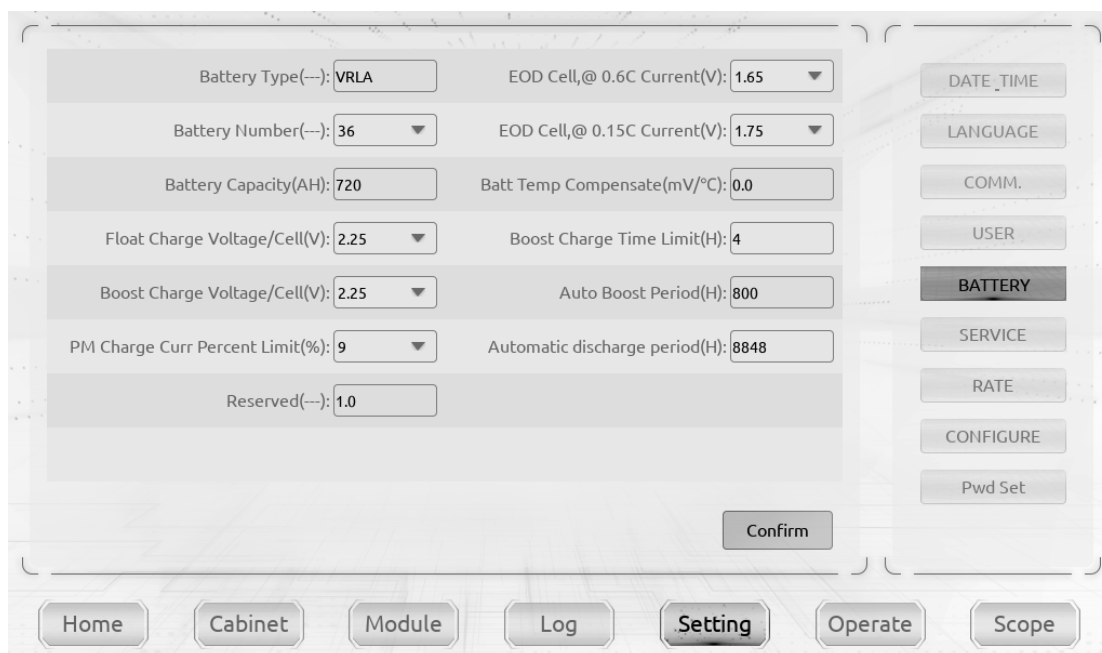

Figure 5-3 Setting period for battery auto discharge
- (1) Enter the system configuration secondary menu under the Settings submenu, select "Automatic Battery Maintenance", and confirm.
- (2) Enter the secondary menu of battery settings under the settings submenu, as shown in Figure 5-3 for automatic battery discharge period settings. Set the discharge period in the "Automatic Discharge Period" and confirm (the battery self-test period is 30-120 days, and if not set by default, the battery self-test is disabled).